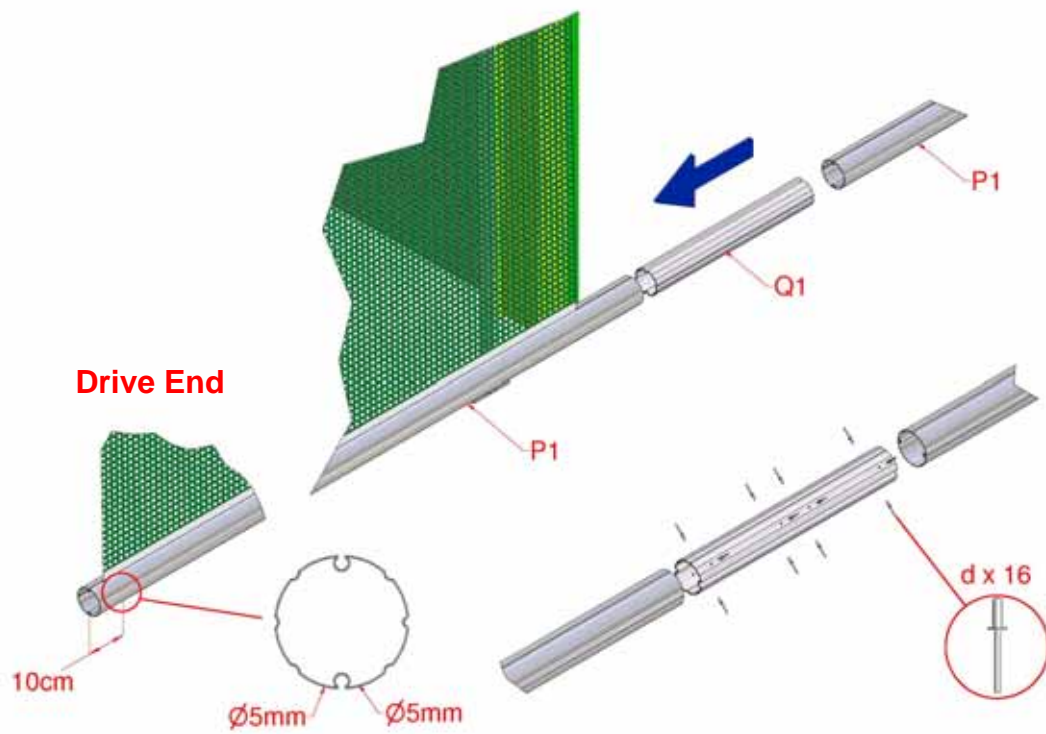
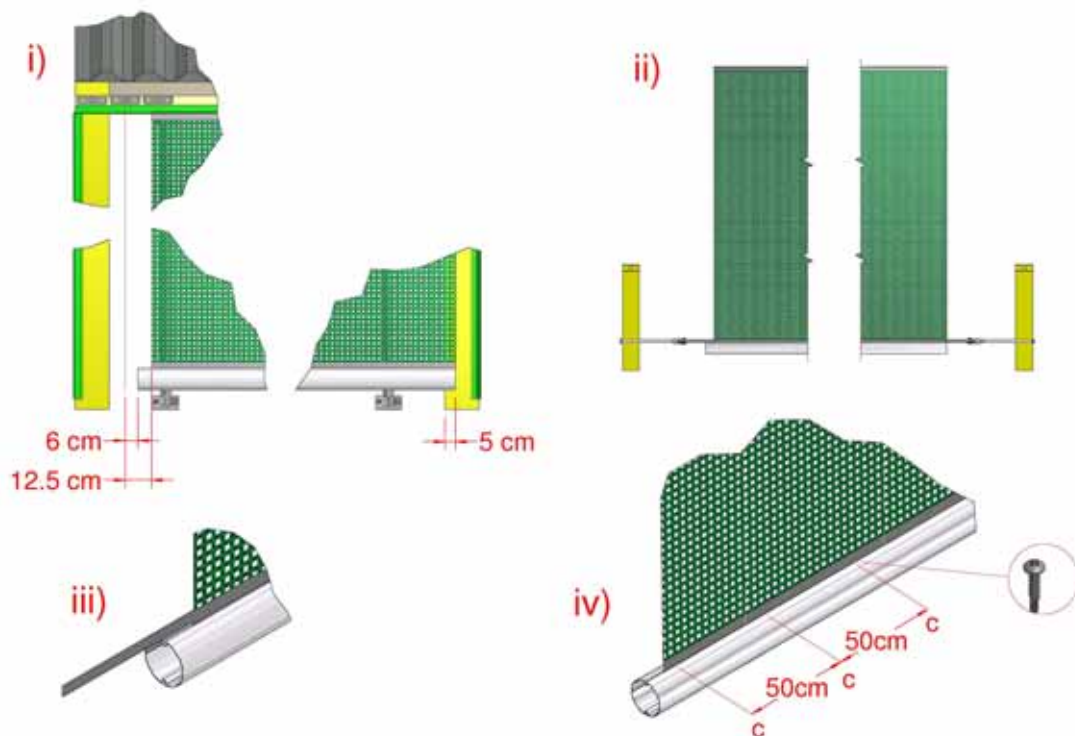

Figure 11, Inserting and Joining Rolling Tube
Figure 12, Tensioning Curtain
- 3.4 Slide the Bottom Rolling Tubes (P1) on from the non-drive end, down towards the drive end, inserting a Tube Joiner (Q1) equally between each length of the rolling tube and fasten using stainless steel rivets (d), Figure 11. Cut the penultimate tube so that the last tube, at the non-drive end, is full length. The Drive end of the tube needs to end 6cm from the centreline of the middle upper Face Bracket (E1), Figure 12(i).
- 3.5 In all four corners of the Curtain are projecting kador straps of approx 1m in length which are used to tighten the Curtain, Figure 12(iii).
- b) Attach the Ratchet Hook supplied to the right and left of the building at the height of the Kador Profile, Figure 12(ii). When tightening, ensure that only light tension is applied to the Curtain. Overstretching of the Curtain must be avoided.
- c) The tightened kador must be permanently fixed at both ends using three self-tapping screws through the kador and tube flute spanning about 1m from the end, Figure 12(iv). Dismantle both ratchets and cut off the kador strips.